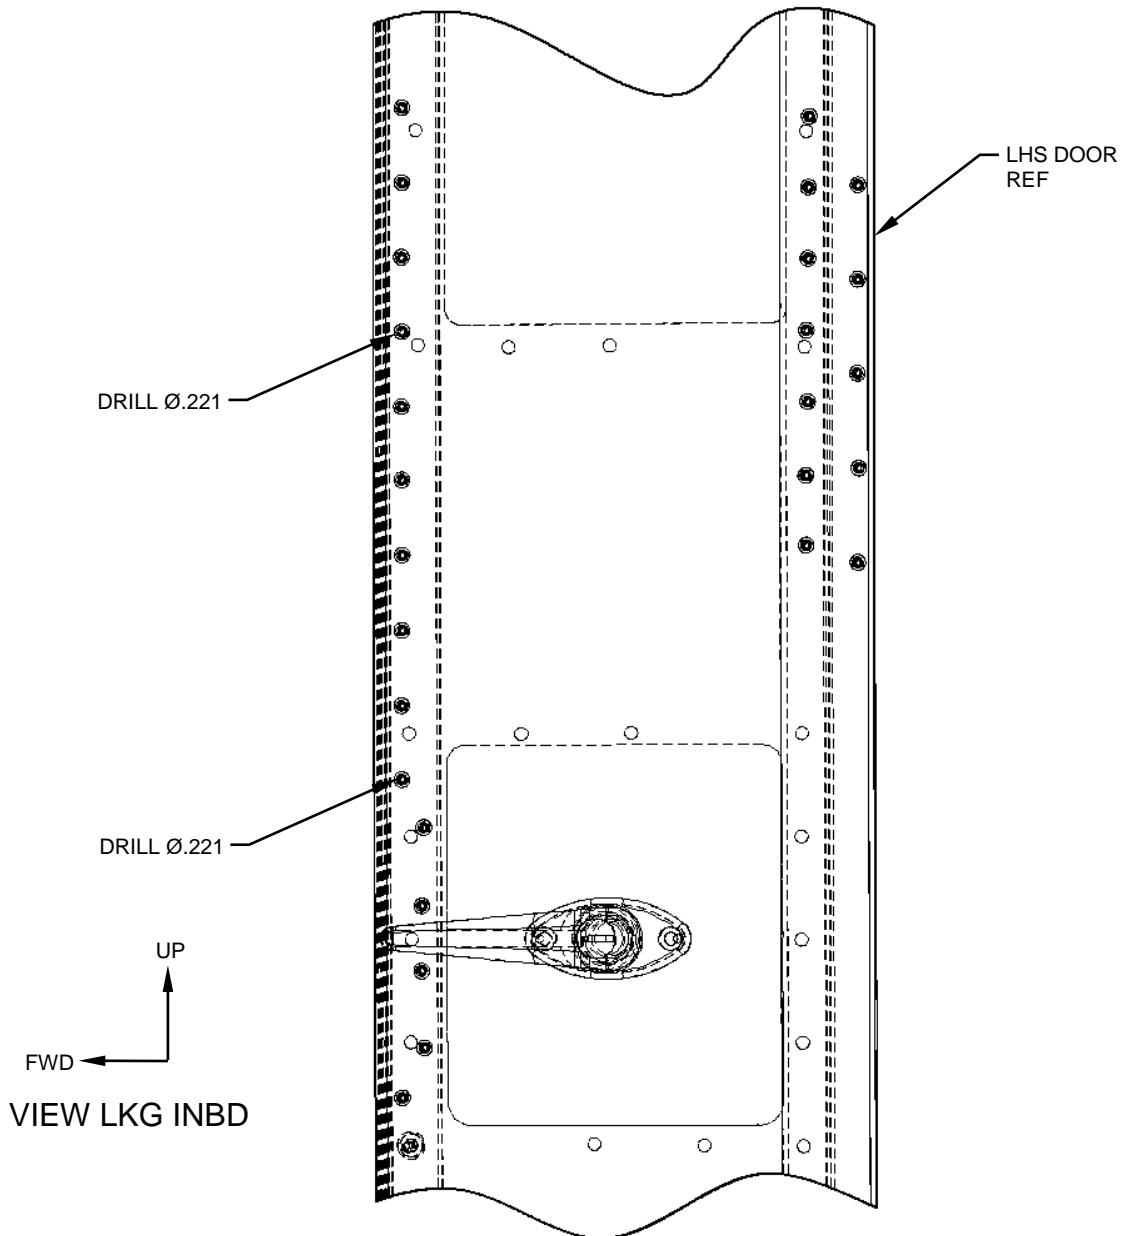

Figure 15
2. Drill out and upsize indicated rivets to $\text{\O}.$ 221 (#2). Reference Figure 15.